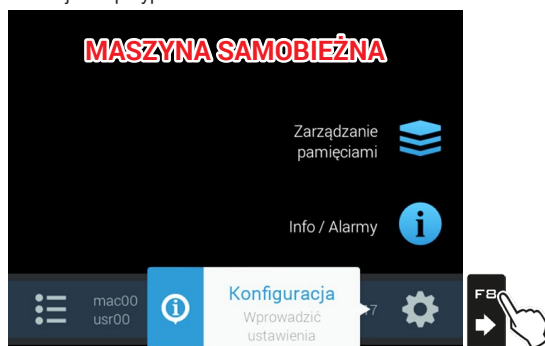
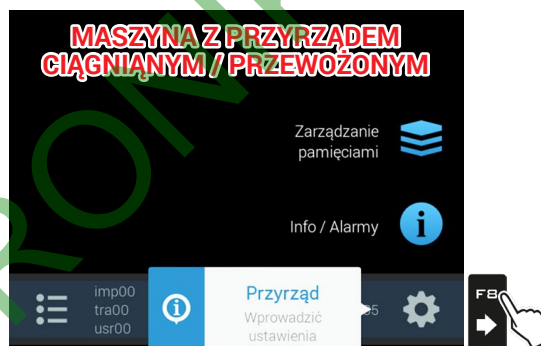

Fig. 22
Fig. 23
WE WSZYSTKICH INNYCH PRZYPADKACH NACISNĄĆ **F7 (B)**: ZAPISZ UŻYTKOWNIKA I KONFIGURACJĘ MASZYNY; NASTĘPNIE OD RAZU URUCHOM PROGRAMOWANIE NADZOROWANE ZA POMOCĄ KLAWISZA FB (Fig. 22 lub Fig. 23).